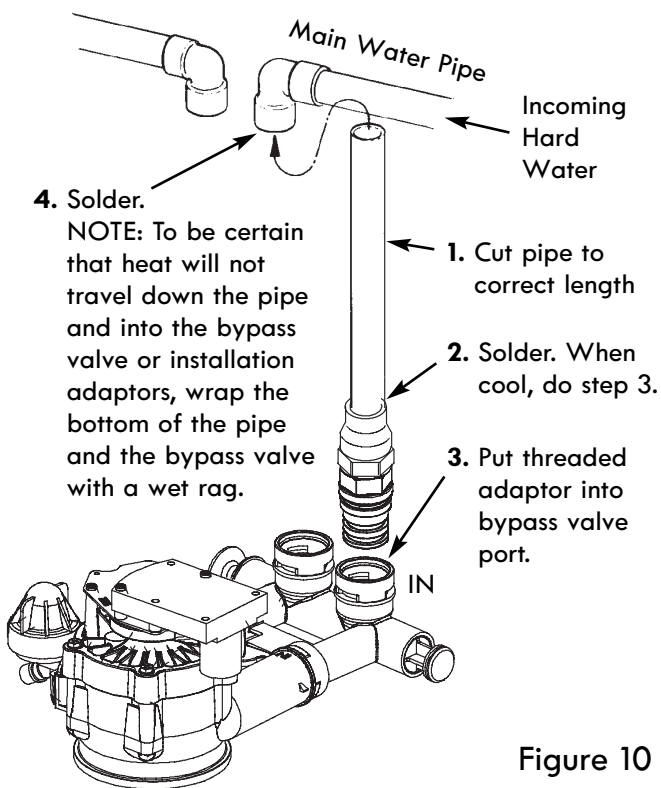

Figure 10
**CAUTION:** Never solder fittings while connected to nonmetallic parts. Wait until soldered pipe has cooled before connection. See Fig. 10.